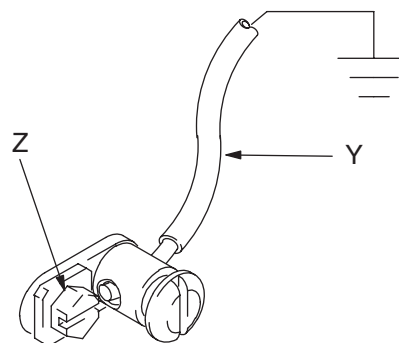

FIG. 1
- *Pump:* Use a ground wire and clamp as shown in Fig 1.
1. Remove the ground screw (Z) and insert through the eye of the ring terminal at the end of ground wire (Y).
3. Connect the other end of the ground wire to a true earth ground. (Fig 1).